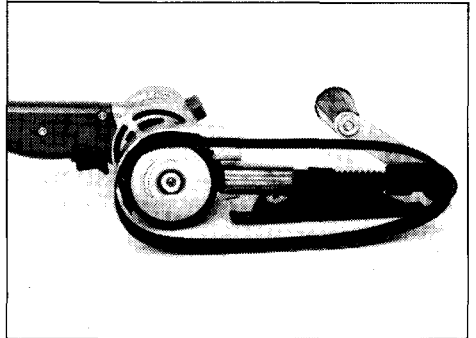

Fig. 4
2. When mounting new belt, keep arrow marks on belt and indication on pulley in same direction (Fig. 4).